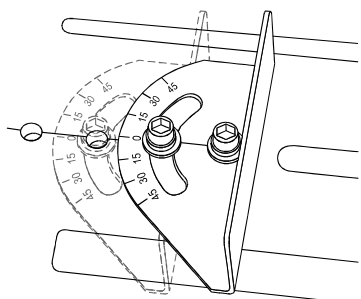

Figure 7
1. Remove the front and rear mitre gauge cap screws using the 8 mm hex key supplied. (Figure 7)